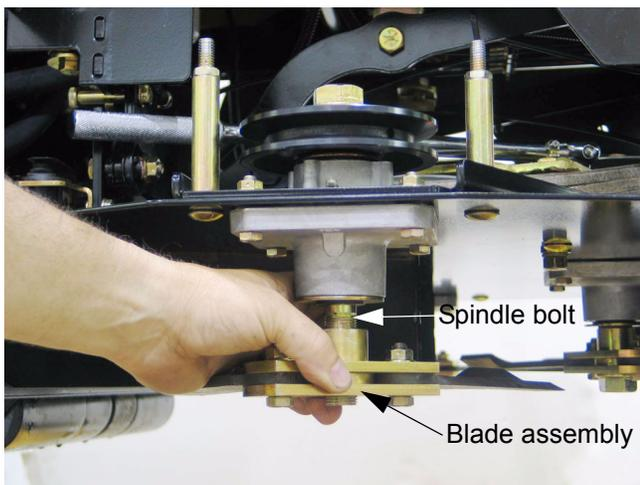

Figure 5.4
- 5.4. Slide the blade assembly off the spindle bolt. See Figure 5.4.